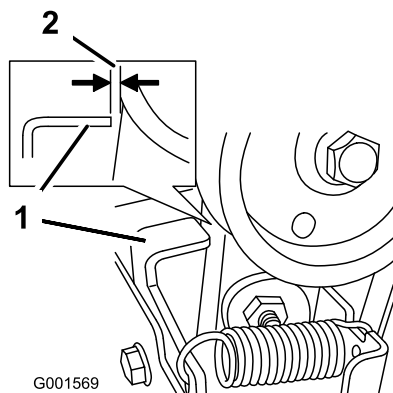

Figure 43
3. With the auger/impeller lever disengaged, ensure that the gap between the auger clutch assembly and the tab is 1.5 mm (1/16 inch) as shown in Figure 43.